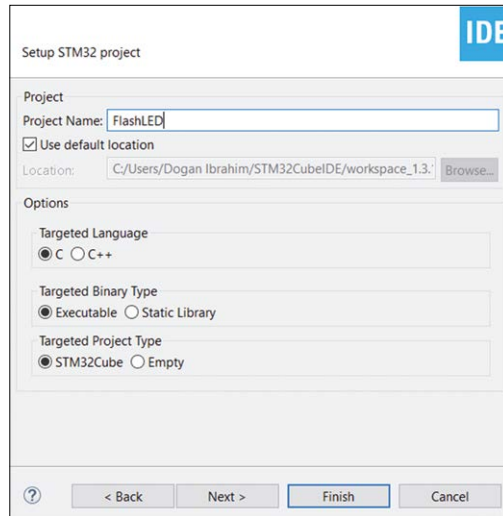

Figure 5.6: Naming your project.
- Assign a name to your project. e.g. **FlashLED** as shown in Figure 5.6.